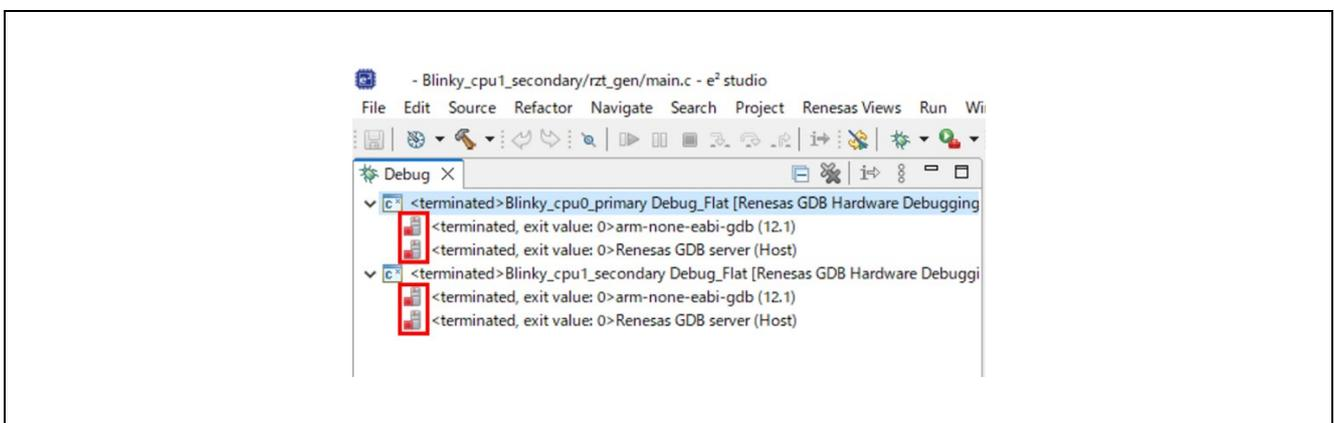

**Figure 35 Warning Window of Device Name**
- When Figure 35 is shown, please click **Yes** to proceed the launch.